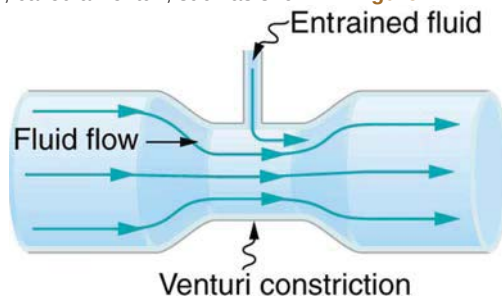

Figure 12.24 A tube with a narrow segment designed to enhance entrainment is called a Venturi. These are very commonly used in carburetors and aspirators.
- Many entrainment devices have a constriction, called a Venturi, such as shown in **Figure 12.24**. How does this bolster entrainment?